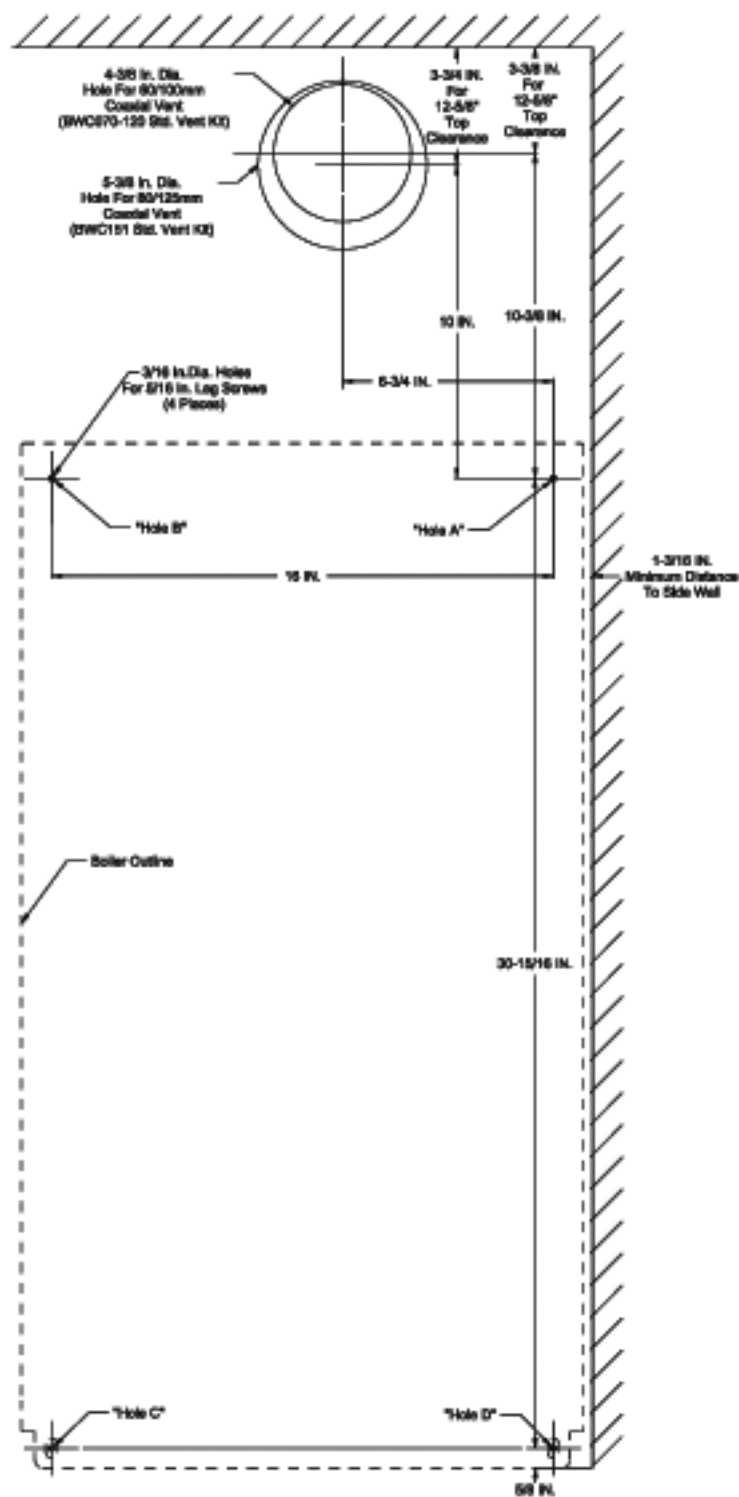

Figure 5.1 Wall Mounting Hole Locations
- 5) Once a suitable location has been selected for the boiler, and any needed modifications have been made to the wall, use Figure 5.1 to locate holes "A" and "B". Make sure that the horizontal centerline of these holes is level. Holes "C" and "D" may also be drilled at this time or after the boiler is hung on the wall. If the  $\frac{5}{16}$ " x 2" lag screws are used, drill  $\frac{3}{16}$ " pilot holes.